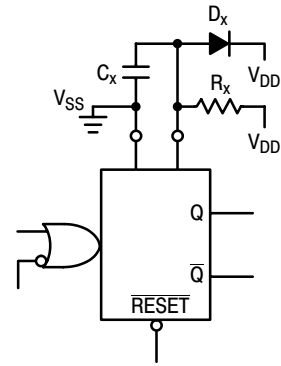

Figure 11. Use of a Diode to Limit Power Down Current Surge
9. If  $C_X > 15 \mu F$ , use discharge protection diode per Fig. 11.
When a more rapid decrease of  $V_{DD}$  to zero volts occurs, the MC14538B can sustain damage. To avoid this possibility use an external clamping diode,  $D_X$ , connected as shown in Fig. 11.